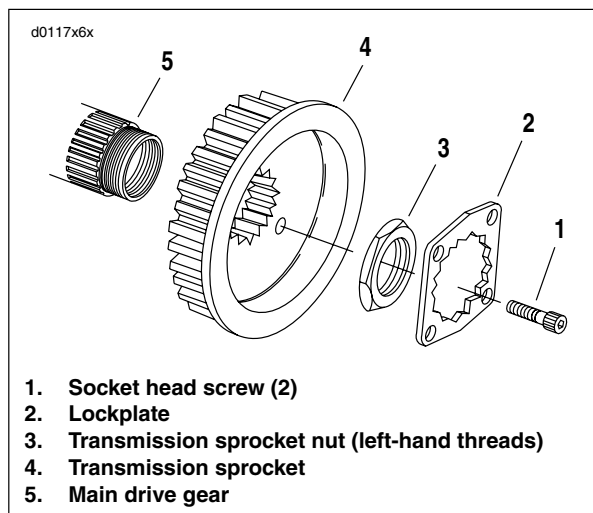

Figure 6-101. Transmission Sprocket
8. See Figure 6-101. Place transmission in first gear. Remove two socket head screws (1) and lockplate (2).
1. See Figure 6-101. Install transmission sprocket (4) with secondary drive belt onto main drive gear (5).
3. Apply a few drops of LOCTITE 271 (red) to the **left-hand threads** of transmission sprocket nut (3) and lightly coat the washer-faced side with clean H-D 20W50 engine oil. Wipe off any excess oil.
9. See Figure 6-101. Install lockplate over nut so that two of lockplate's four drilled holes (diagonally opposite) align with sprocket's two tapped holes.
10. See Figure 6-101. Install two socket head screws through aligned holes of lockplate and into tapped holes of sprocket. Tighten to 90-110 **in-lbs** (10.2-12.4 Nm).
See Figure 6-101. The original equipment socket head screws (1) have thread-locking compound applied to them. Since this compound remains effective for about three removal/installation cycles, the original screws may be reused up to three times. After the third removal/installation cycle, replace both screws with **new** screws identical to the original.